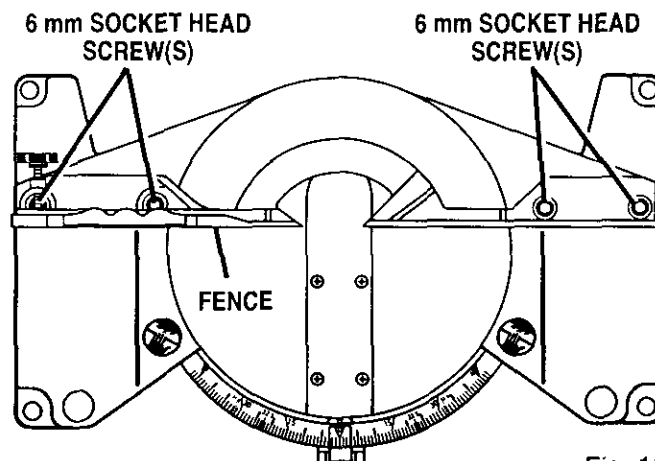

Fig. 16
- Using a 6 mm key, loosen the socket head screws securing the fence. See Figure 16. Adjust the fence left or right until the framing square and zero clearance throat plate are parallel.